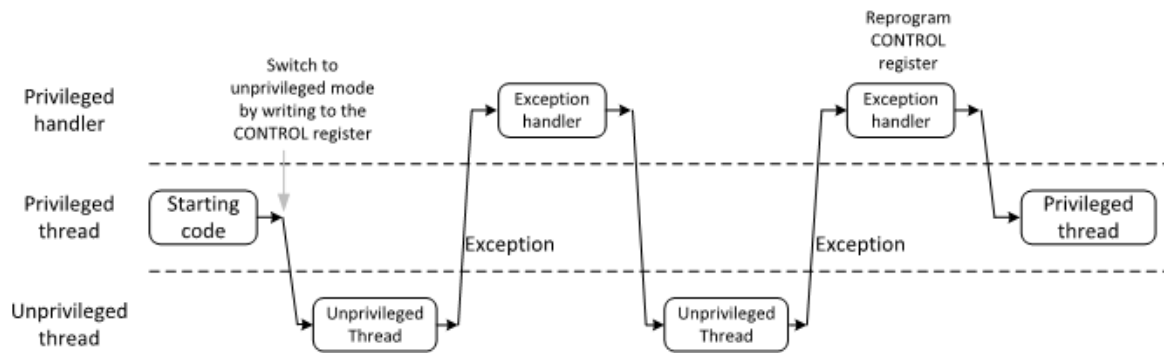

Figure 12: Switching between privileged thread mode and unprivileged thread mode
- During exception handling, the exception handler can clear the nPRIV bit shown in figure 12. When returning to Thread mode, the processor will be in privileged access level.